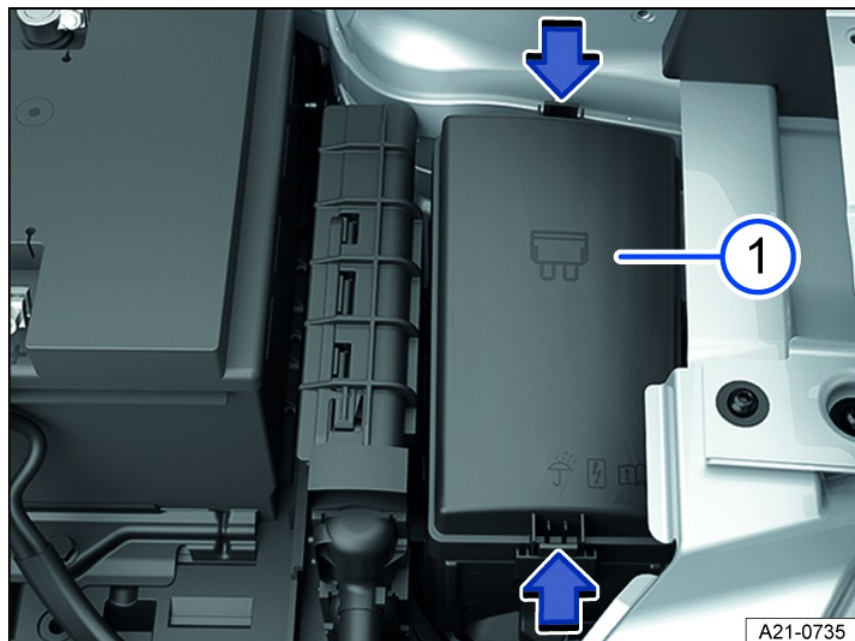

Fig. 140 In the engine compartment: Fuse box.
2. Press the catches in the direction of the arrow to unlock the fuse box cover *fig. 140* .